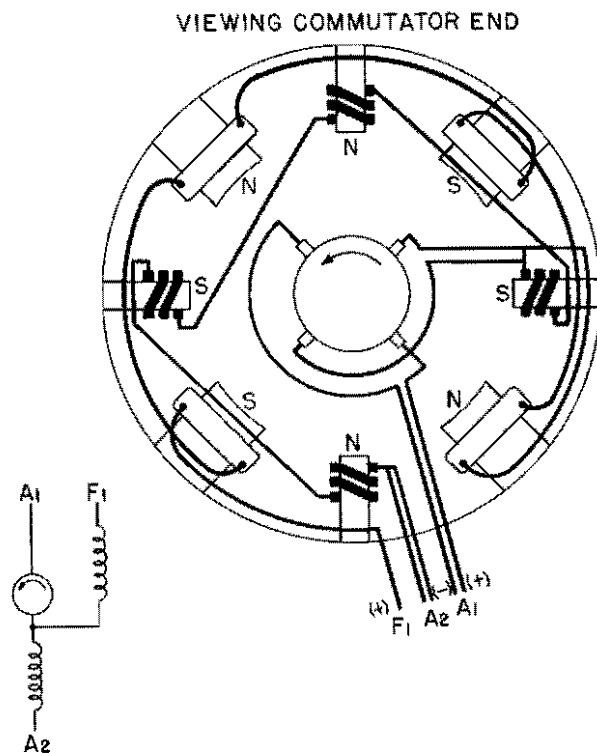

Fig. 6 - Connection Diagram
Make a resistance check of field coil and interpole circuits, see Maintenance Data. A polarity test, if necessary, can be made with the aid of a magnetized dip needle and by applying direct current to the field circuits, see Figs. 6 and 7.
3. Excite the fields from an external source. Connect the positive lead of the shunt field to the positive terminal of the source, and connect the negative lead of the shunt field to the negative terminal of the source. (See connection diagram for field polarity, Fig. 6).